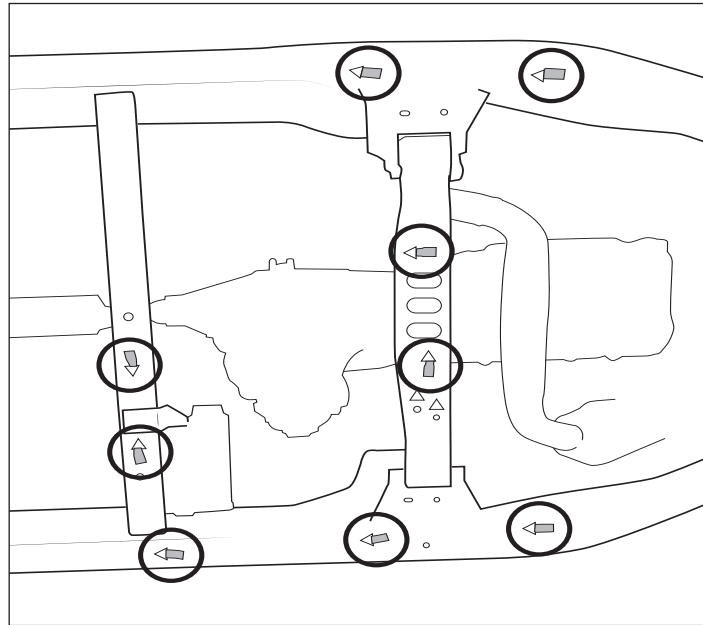

Figure 3
3. Install nine M10 U-nuts into the frame locations shown (fig. 3).